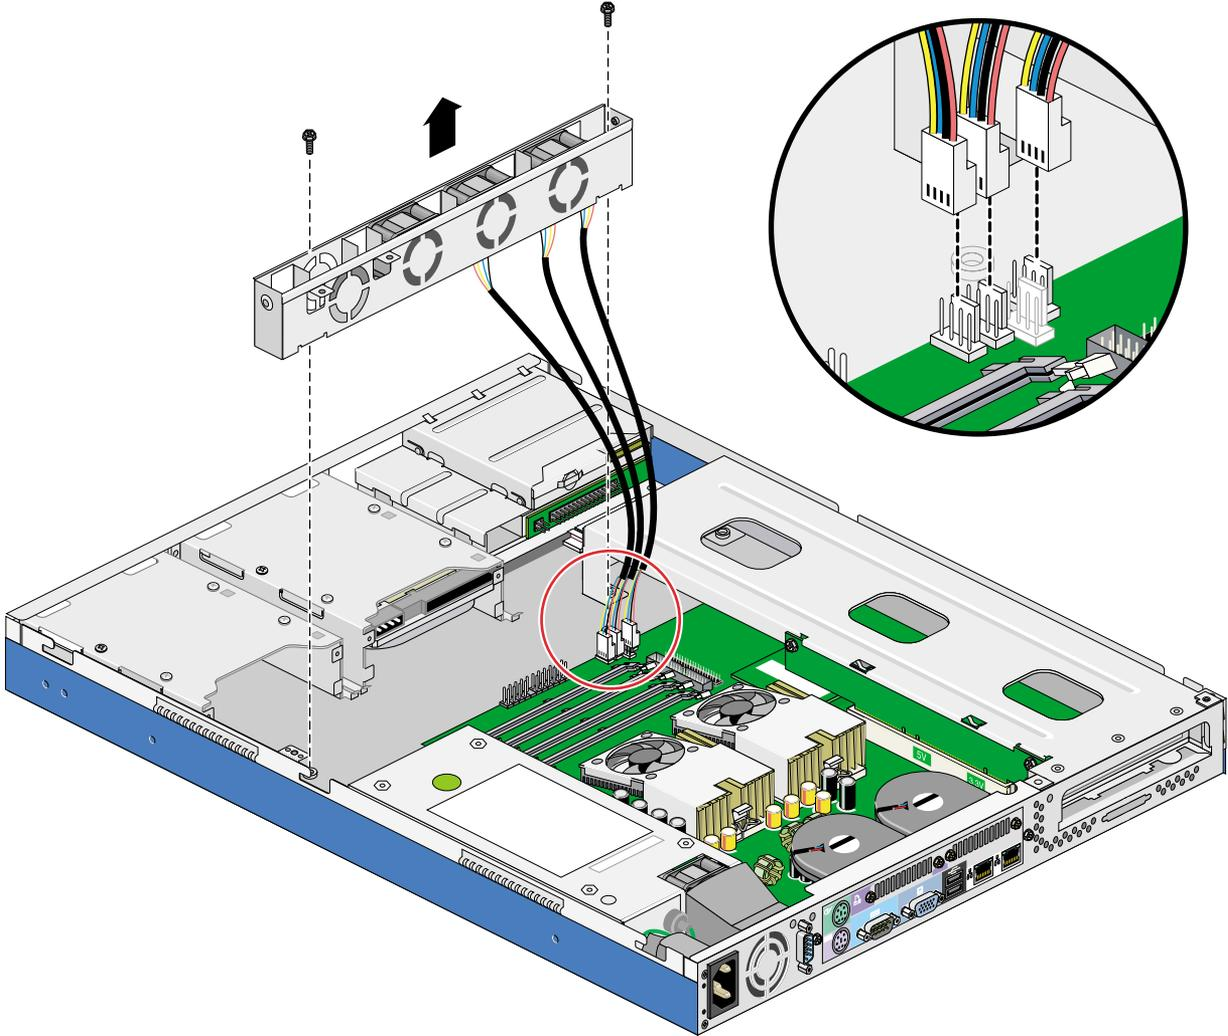

Figure 2-10 Removing the Chassis Fan Cage
2. Disconnect the three fan connectors from the system board as shown in Figure 2-10.
3. Remove two screws and pull the chassis fan cage up, as shown in Figure 2-10.